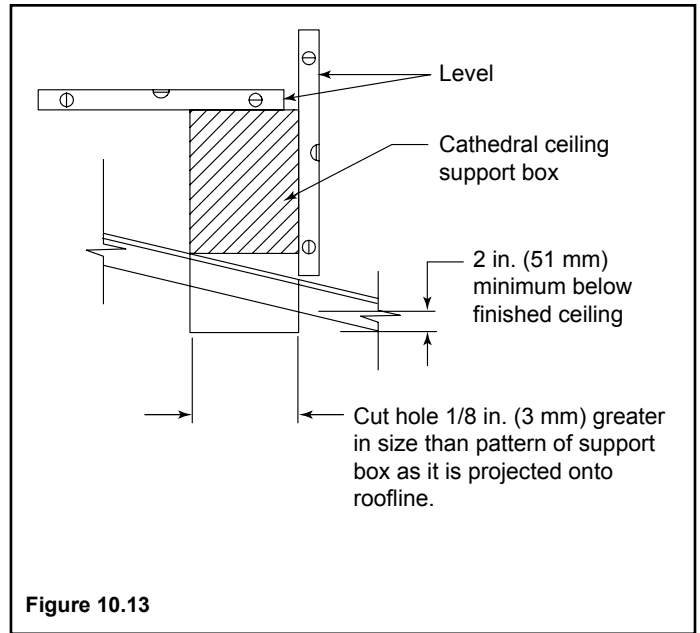

Figure 10.13
- Lower the support box through the hole in the roof until its bottom is at least 2 in. (51 mm) below the ceiling (Figure 10.13).